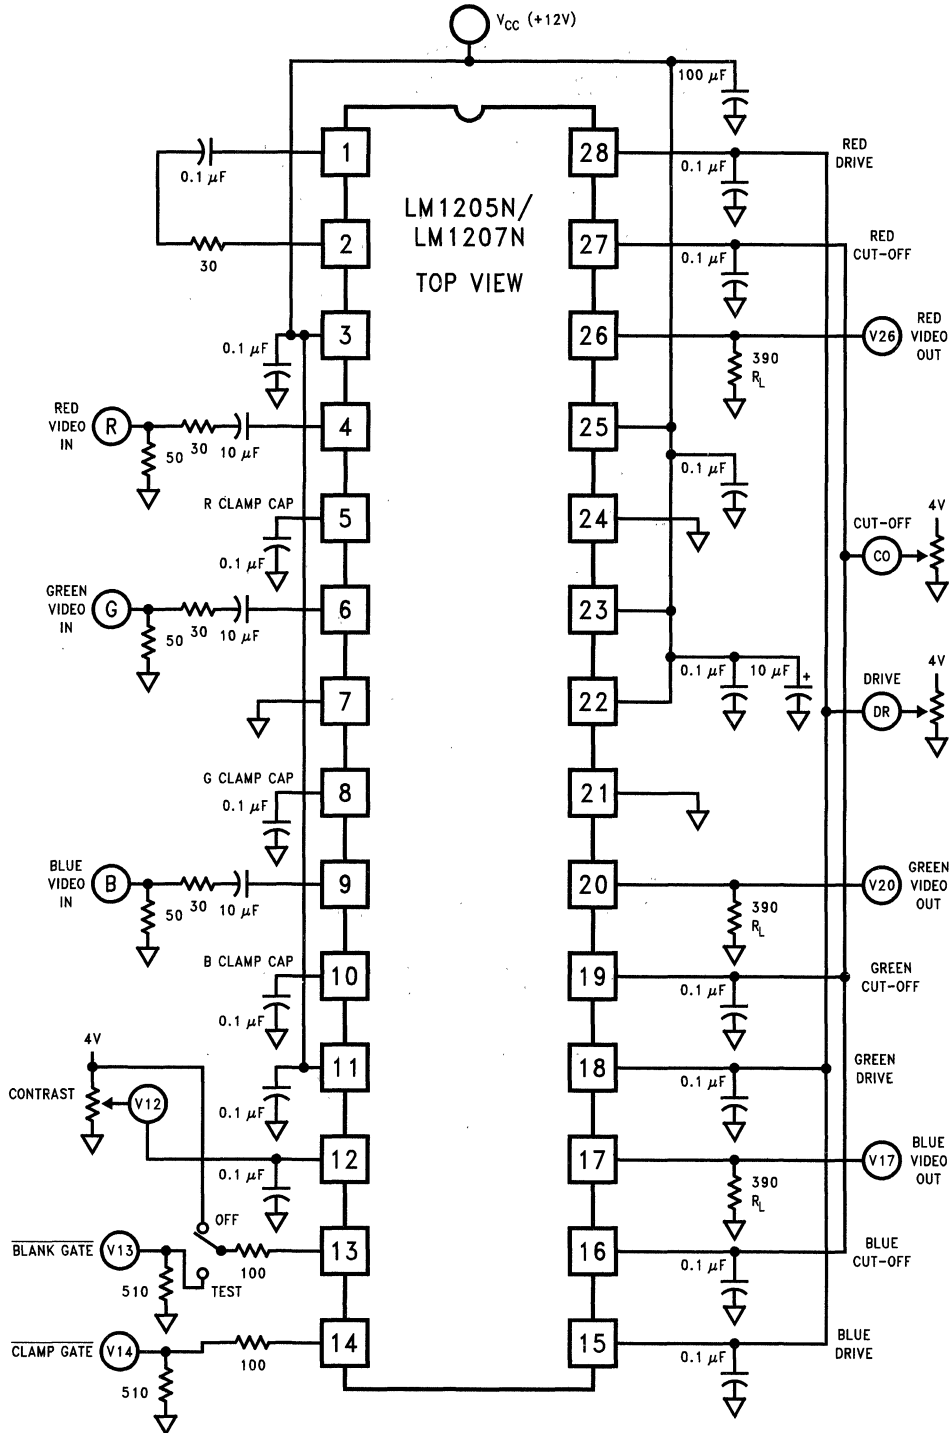

FIGURE 2. LM1205N/LM1207N DC Test Circuit
**Note 7:** The supply current specified is the quiescent current for  $V_{CC1}$  and  $V_{CC2}$  with  $R_L = \infty$ , see Figure 2's test circuit. The supply current for  $V_{CC2}$  (pin 23) also depends on the output load. With video output at 1V DC, the additional current through  $V_{CC2}$  is 8 mA for Figure 2's test circuit.